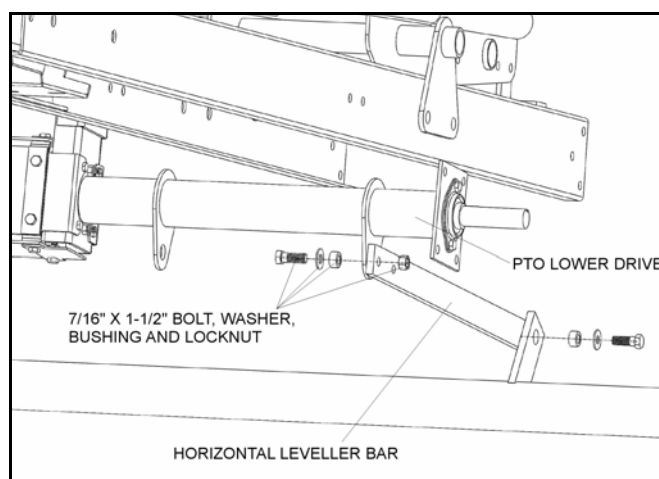

Figure 3.45
9. Bolt horizontal leveller bar to the aligned tab on PTO lower drive with $\frac{7}{16}$ " x $1\frac{1}{2}$ " bolt, flat washer, bushing, and locknut as shown in Figure 3.45.